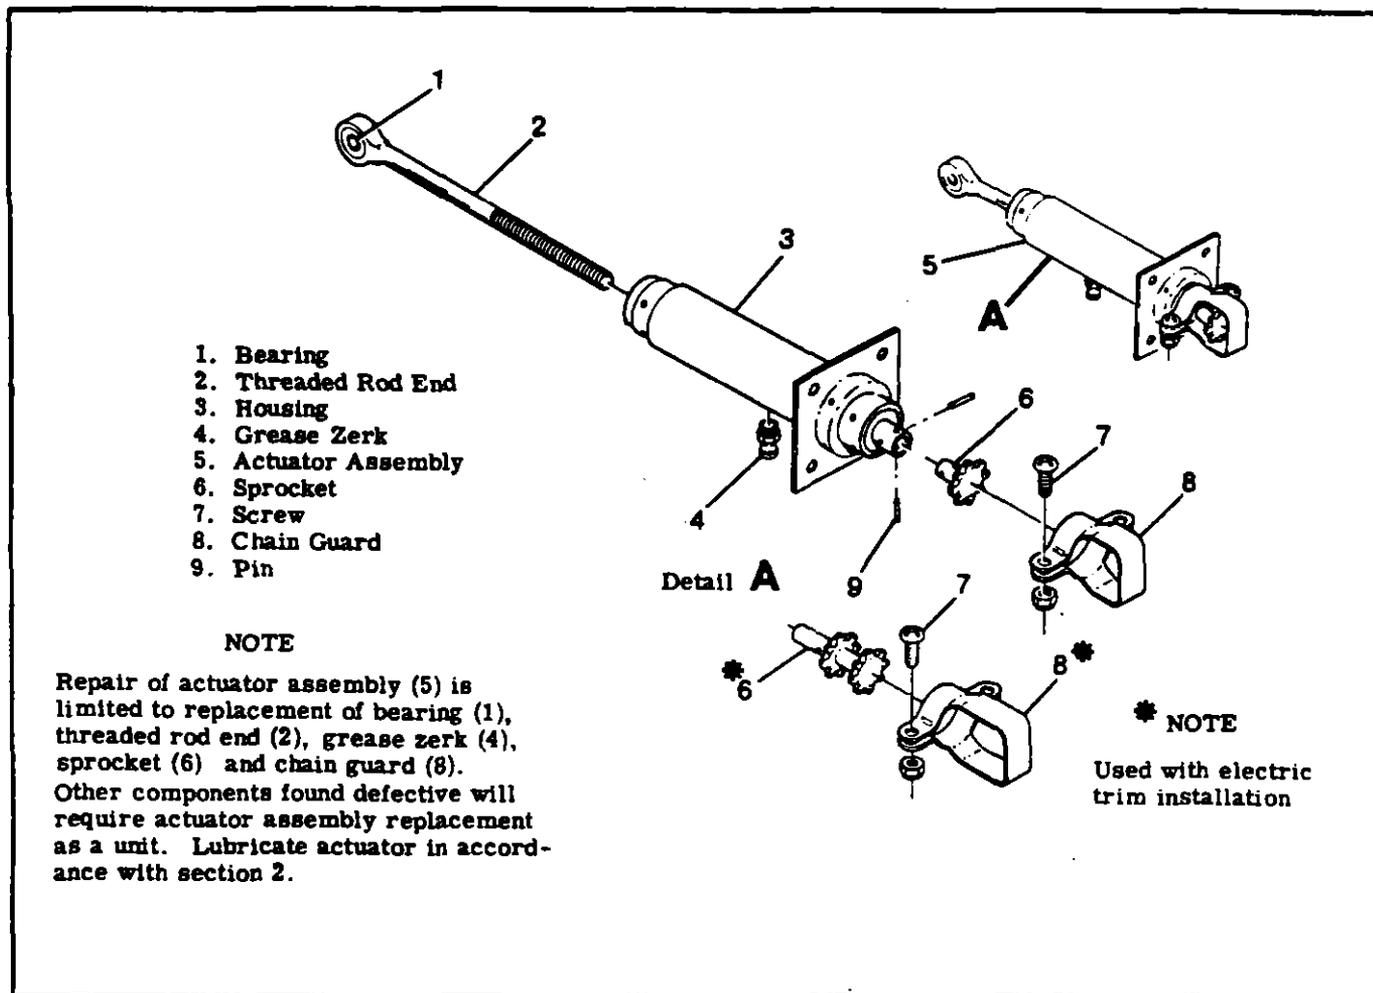

Figure 9-4. Elevator Trim Tab Actuator Assembly
- e. (Refer to figure 9-4.) Rotate trim control wheel (5) full forward (nose down). Ensure pointer (2) does not restrict wheel movement. If necessary to reposition pointer, proceed as follows:
2. Loosen nut (6) at trim wheel pivot stud (20).
3. Loosen screws (8) securing chain guard (7) far enough that trim wheel (5) can be moved approximately 1/8 inch, then reposition pointer (2) using a thin screwdriver to pry trailing leg of pointer out of groove in trim wheel. Reposition pointer as required.
4. Tighten nut (6) and screws (8), but do not re-install pedestal cover until rigging is complete.